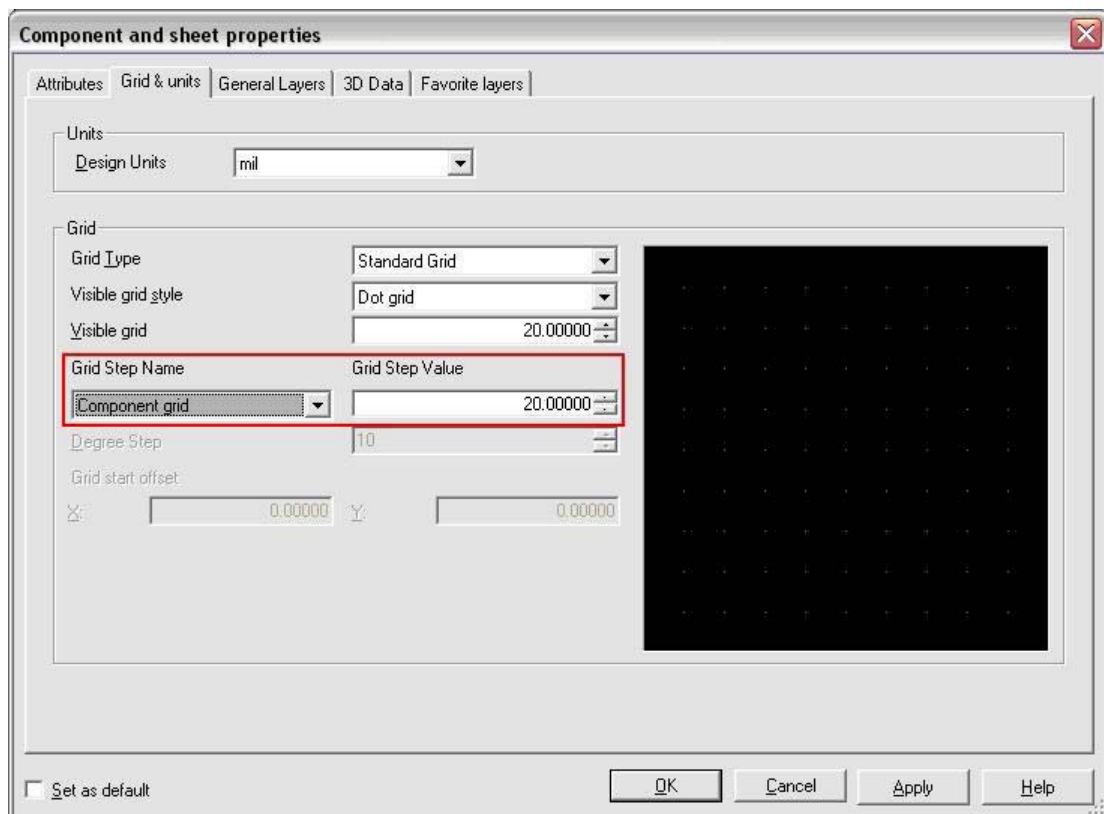

Figure 4 - Grid Properties
- c.) In the units section (Figure 4) set the **Design Units** as **mil**.
d.) To set the various Ultiboard design grids select **Component Grid** in the Grid Step Name combo box (the red box in Figure 4).